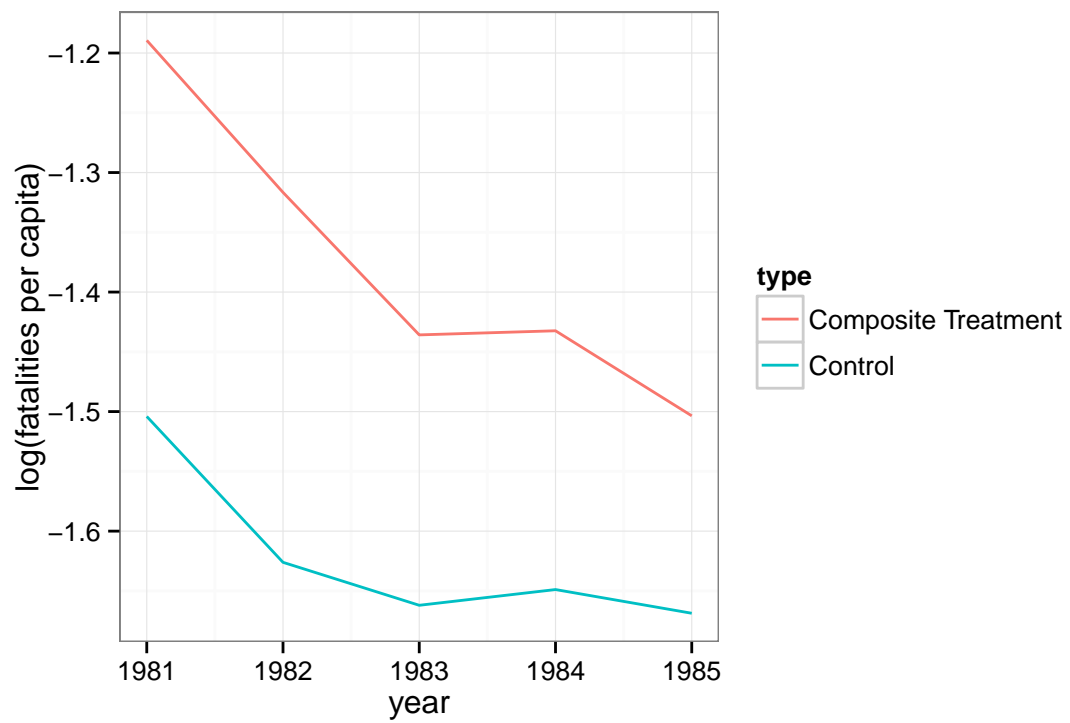

Figure 1: Trend in the dependent variable ( $\log(\text{fatalities per capita})$ ) for the composite treatment state and the average of the control states.
**Starting with simple comparisons** We begin with simple comparisons between the dependent outcome of interest, the natural logarithm of traffic fatalities per capita ( $\log(\text{fatalities per capita})$ ), between a predefined composite treatment state “TU” (or, state #99), and all of the potential control states. The mean over the period before primary seatbelt laws were adopted in the treatment state is -1.4 and the mean for the control states is -1.7, indicating approximately a 30% lower typical fatalities rate in the treatment state than the average control state (even before the primary seatbelt law “treatment”). The trends for both shown in Figure 1 show that overall the fatalities were on the decline in both places before the treatment period.